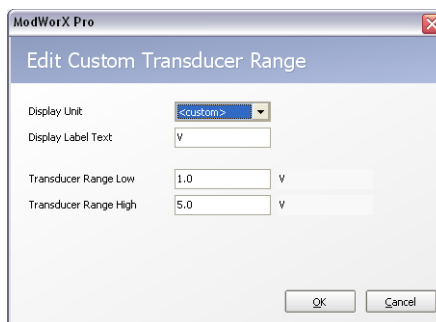

Figure 6.21
- b. The Edit Custom Transducer Range dialog will appear (Figure 6.21).
- d. If a Custom Sensor Type is selected, click the **Edit** button next to Sensor Parameters to access the Transducer Range Low and Transducer Range High settings (see the Edit Custom Transducer Range dialog in Figure 6.21, page 91).